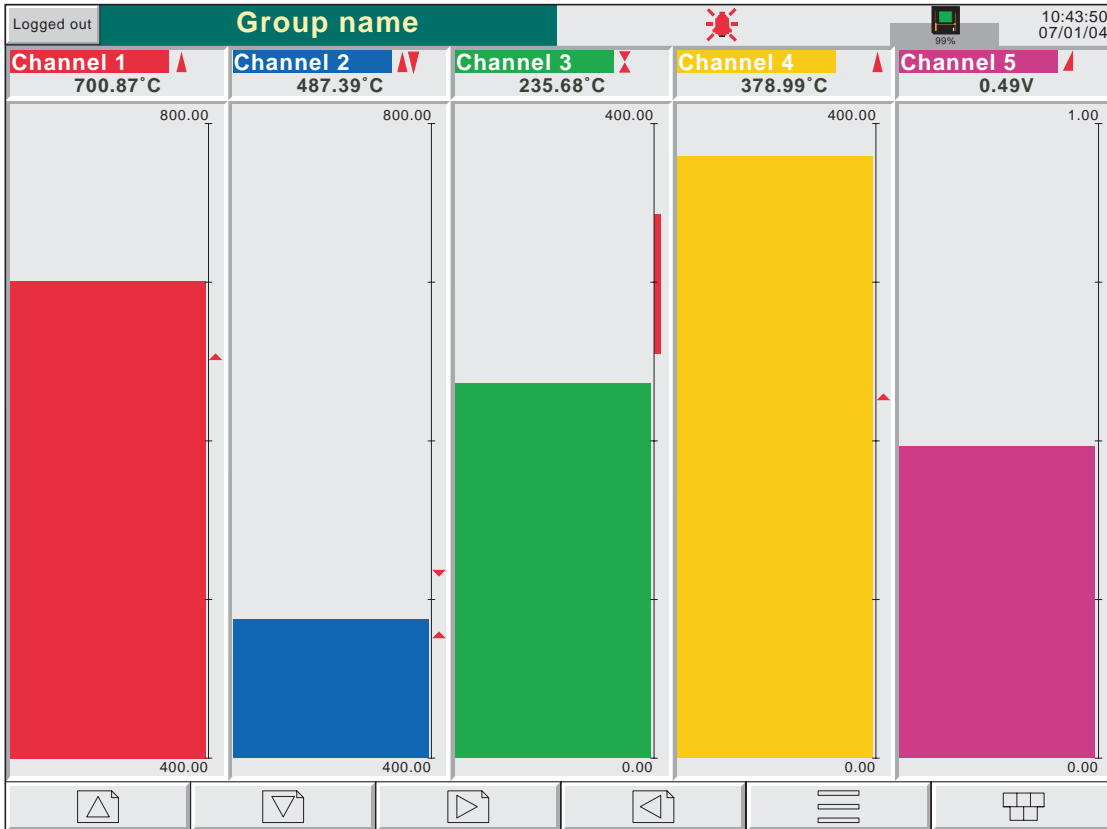
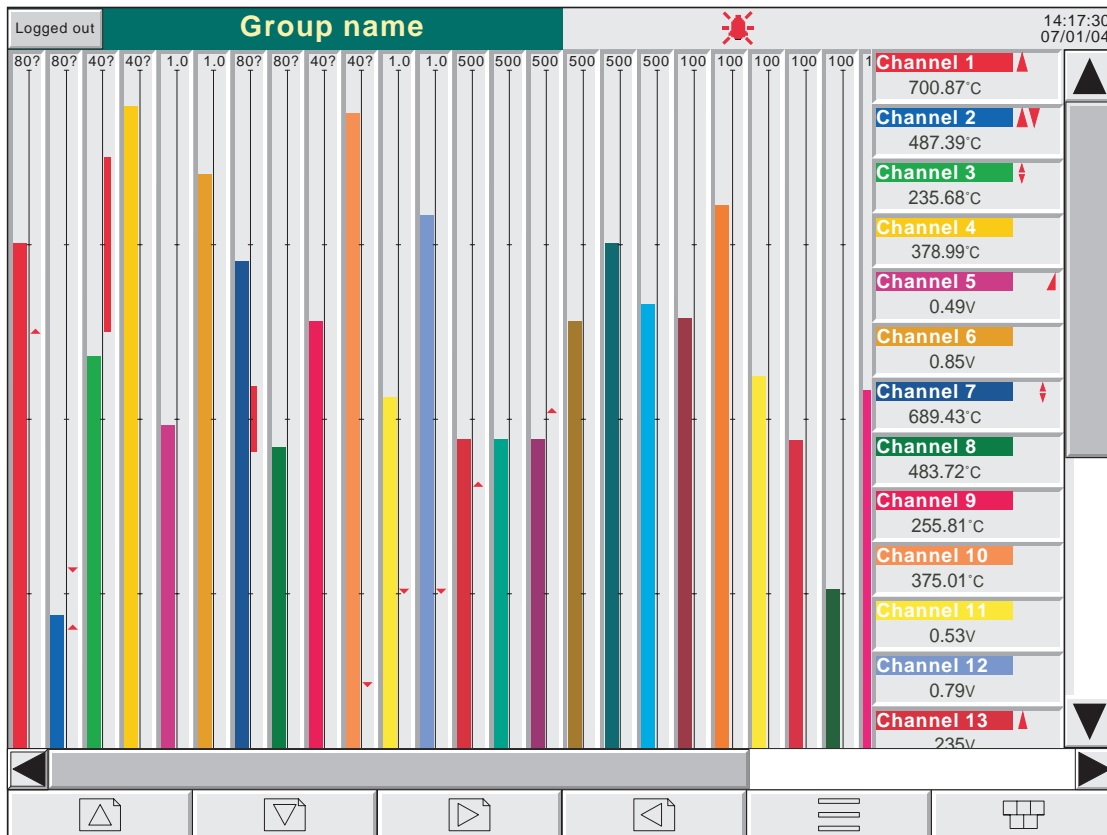

Figure 3.4.3a Vertical bargraph display (1 to 6 channels)
Figure 3.4.3b Vertical bargraph display (more than 6 channels)
Entered from Horizontal Trend mode by means of the down arrow key, or selected from the **Root Menu** 'Goto View' key, this display mode shows the Process Variable (PV) values as vertical bars with faceplates containing digital values and alarm data. There are two versions, one with faceplates above the bars (1 to 6 channels - figure 3.4.3a); the other (with faceplates at the right hand edge of the display - figure 3.4.3b) is used where there are more than six channels.
See figure 3.4.3a.
See figure 3.4.3b.
As the number of PVs increases, the bars get narrower. As the bars get narrower, so the scale values become truncated as shown in figure 3.4.3b. The bars have a set minimum width, and if the total number of points in the group cannot be displayed within the width of the screen, a horizontal scroll bar appears, allowing 'hidden' bars to be viewed. Similarly, the faceplates reduce in height to a minimum readable height. If there are more point faceplates than can be accommodated within the height of the screen, a vertical scroll bar appears, allowing hidden faceplates to be displayed as required.